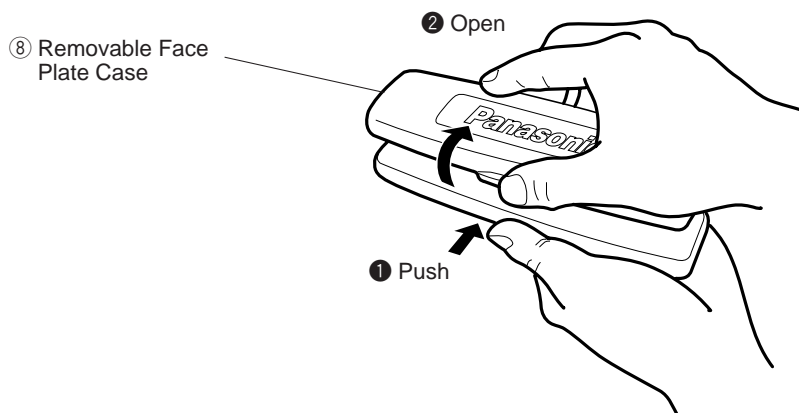

Fig. 3
- ④ As shown in Fig. 3, gently push the lower side of the case and open its cover. Keep the face plate in the case. Then, you can safely take the plate with you.